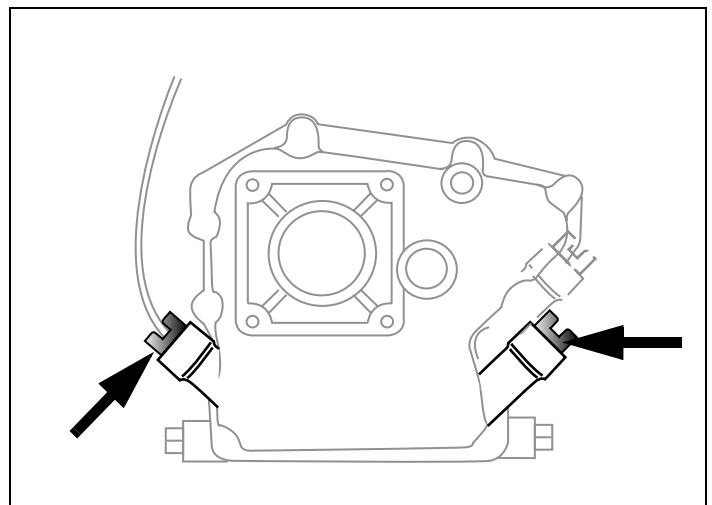

Figure 38. Possible Oil Fill Plug Location(s)
8. Fill with recommended oil. See "III. Oil and Fuel Specifications" instructions on page 5. See Tables 1 and 2. See Figure 38. Afterward, continue reading instructions below.